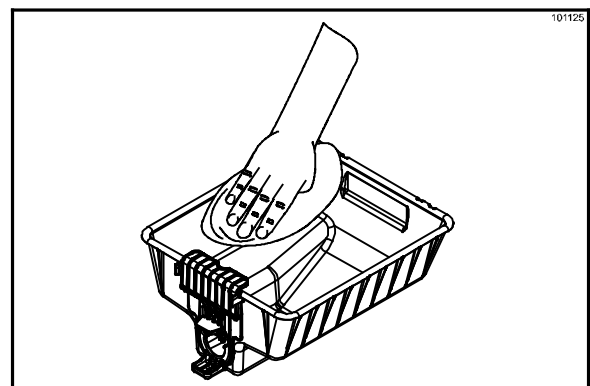

Figure 26
- Using a clean, sanitized cloth, wipe the inside of the bin before installing a new product bag. (See Figure 26.)